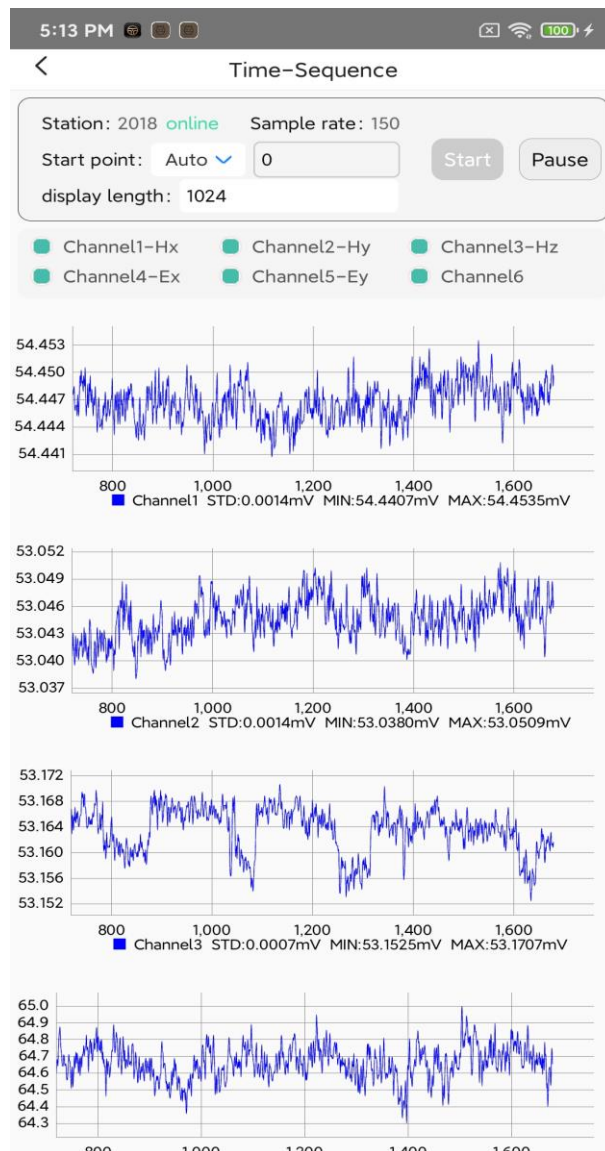

Figure 4-7. Timing monitoring page for AMT measurement mode
1. Click "MT Measurement" or "AMT Measurement" on the main page to enter the corresponding measurement mode page, as shown in Figure 4-7.